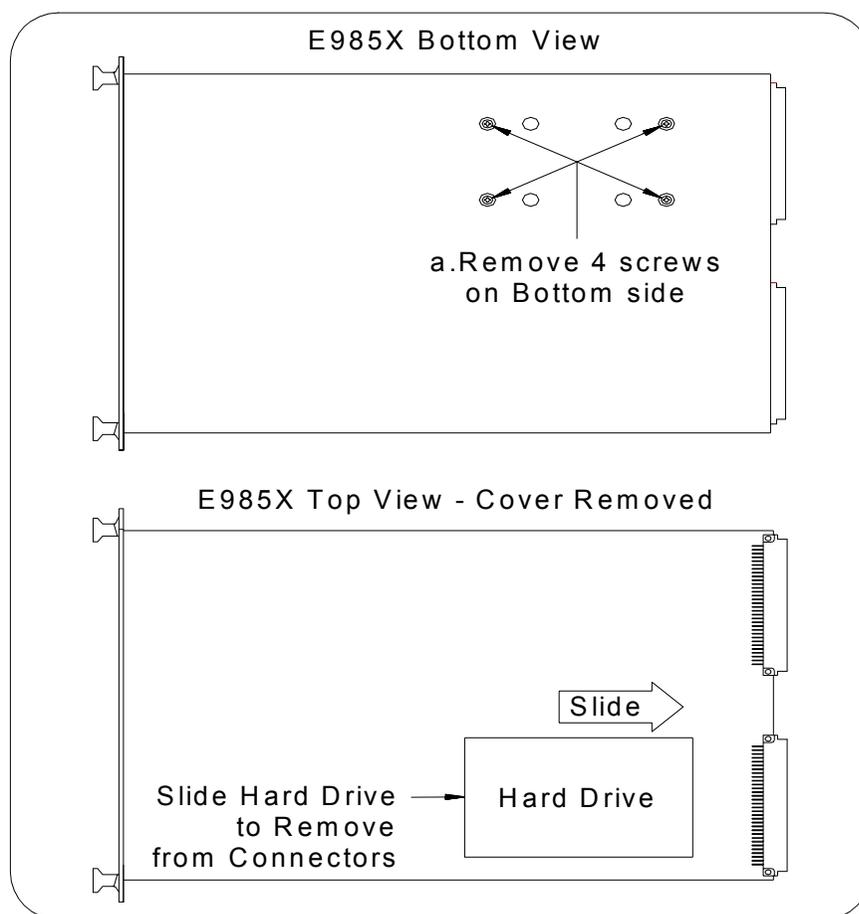

Figure 6-3. Removing the Hard Drive
- 3 Remove the hard drive from the E985xA (see Figure 6-3).